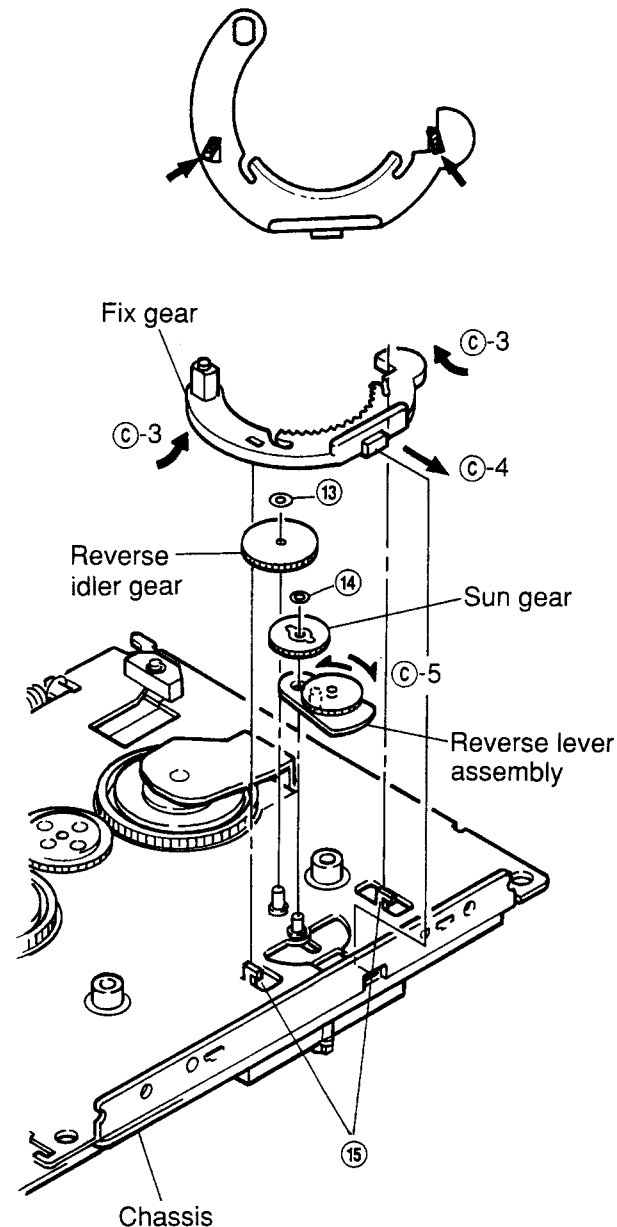

Figure 13
- (1) Remove M1.2 lock washer (13), pull it up from the stud of the chassis and remove the gear as shown in Figure 13.
- (2) Remount following the removal steps in the reverse order.
- (1) Remove M1.2 lock washer (14) , pull it up from the stud of the chassis and remove the gear as shown in Figure 13.
- (2) Mount it, following the removal steps in the reverse order.
- (1) Adjust the two mounting claws for the fix gear on the chassis **15** and remove the section **C-3** of the gear by pulling it up in the direction of the arrow shown in Figure 13.
- (2) Insert the section **C-4** of the new gear into the chassis, and mount it following the removal steps in the reverse order as shown in Figure 13.
- (1) Remove both the fixing gear and the sun gear and remove the reverse lever assembly as shown in Figure 13.